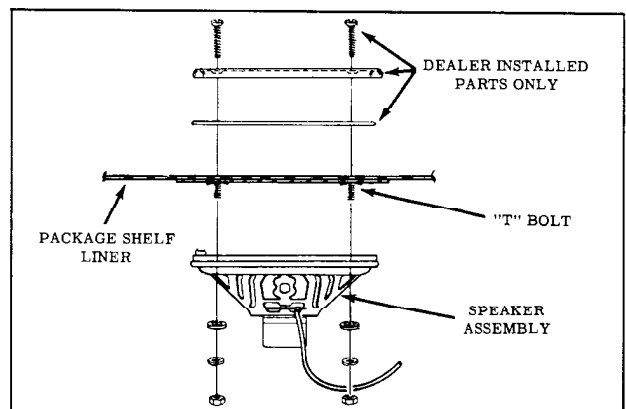

Fig. 15-12 Rear Seat Speaker (All Except 35, 45 & 67 Styles)
2. Remove four mounting nuts, lock washers, and flat washers, while supporting speaker to prevent it from dropping. (Fig. 15-12)